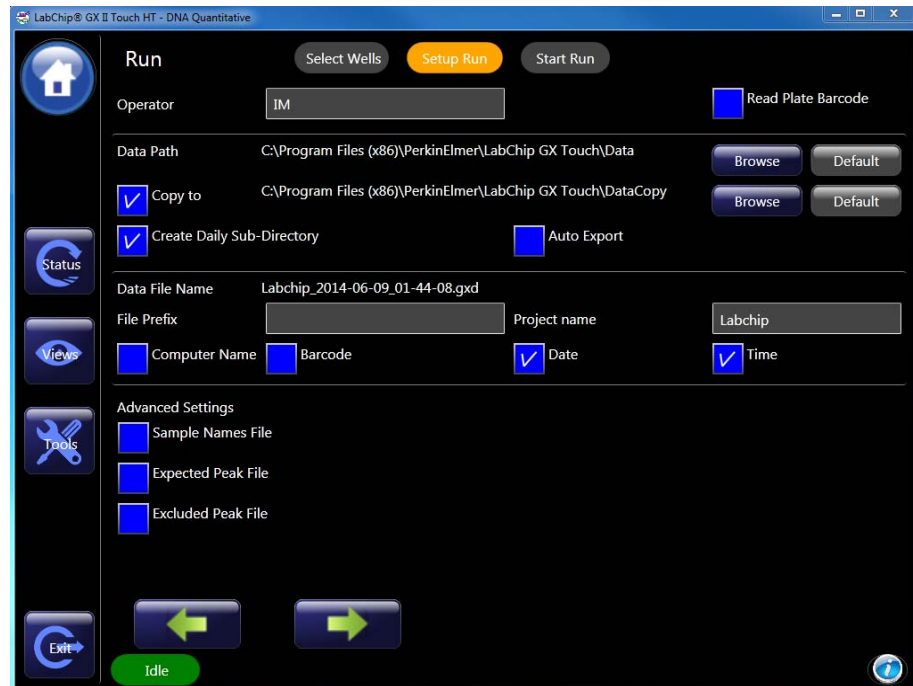

Figure 12. Run setup screen.
- 4 In the *Setup Run* tab, select the operator name, the option to read barcode, the destination of the file, the inclusion of sample names, expected peaks, and excluded peaks and the filename convention. Select *Auto Export* to export results tables automatically (Figure 12). Touch the *green arrow* button.